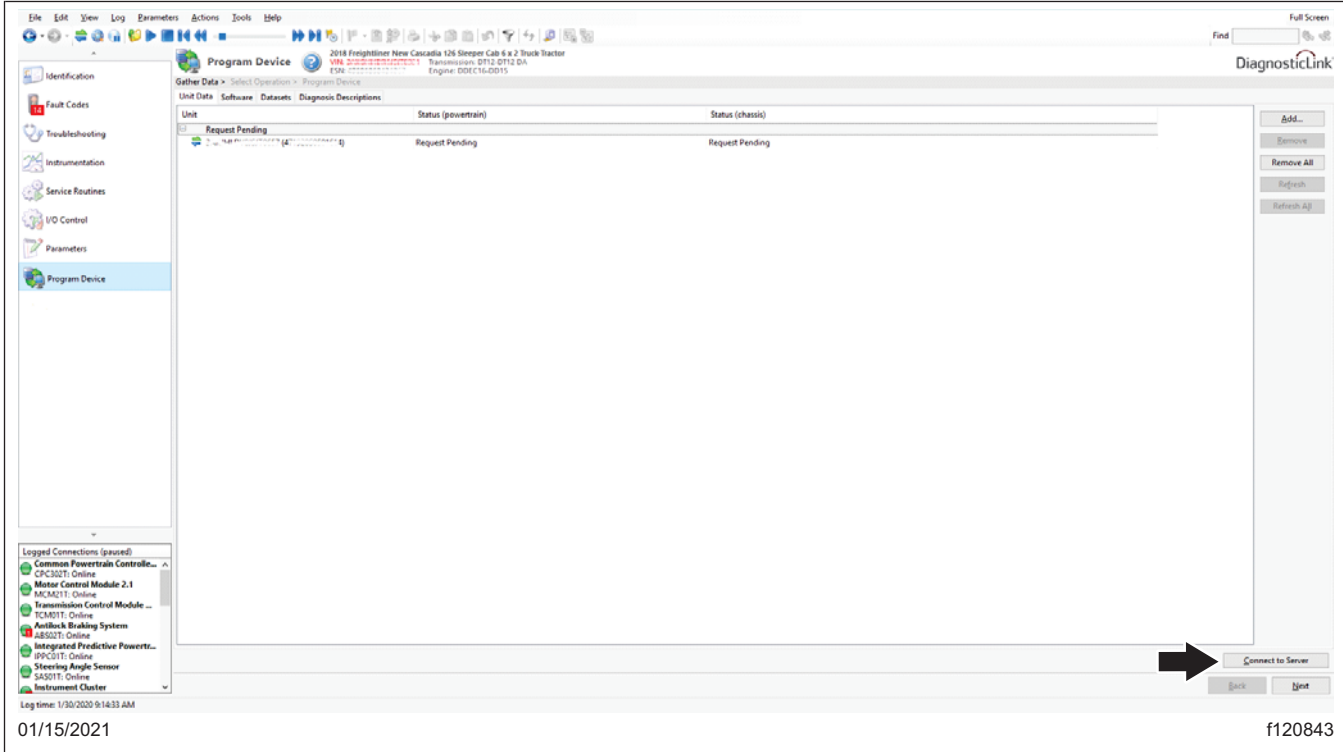

Fig. 7, Downloading Updated Vehicle ECU Software
- There should be a request pending status for the VIN. Select 'Connect to Server' as shown in Fig. 7, to download the updated software for the vehicle's ECU(s).